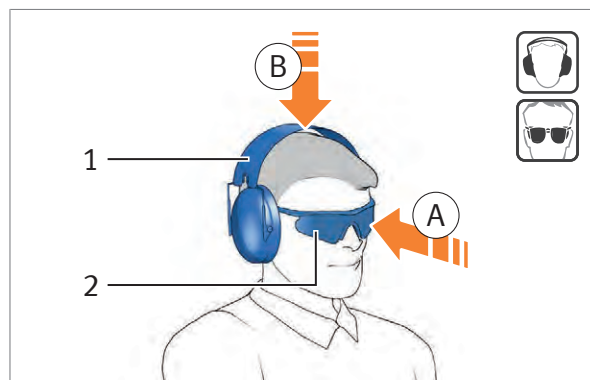

Fig. 1: Example of an illustration
- Cross references between text and illustrations are in *italics* and enclosed in (brackets), e.g. (Fig. 1).